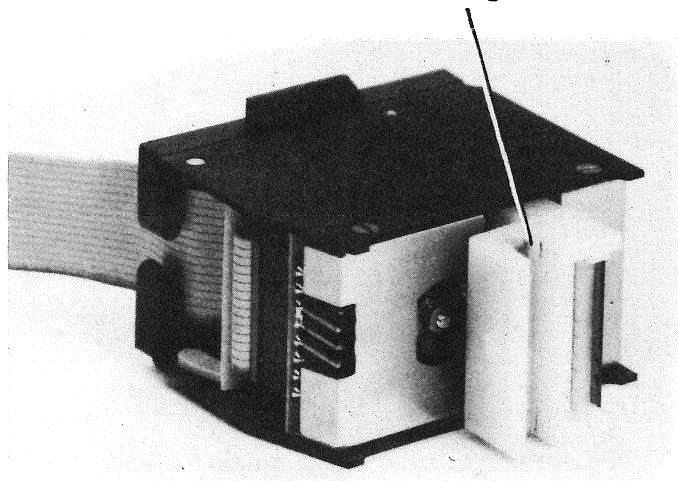

Fig. 5.5b Lubrication
- d) Lubricate the felt pad on the punching bridge (Fig. 5.5b).